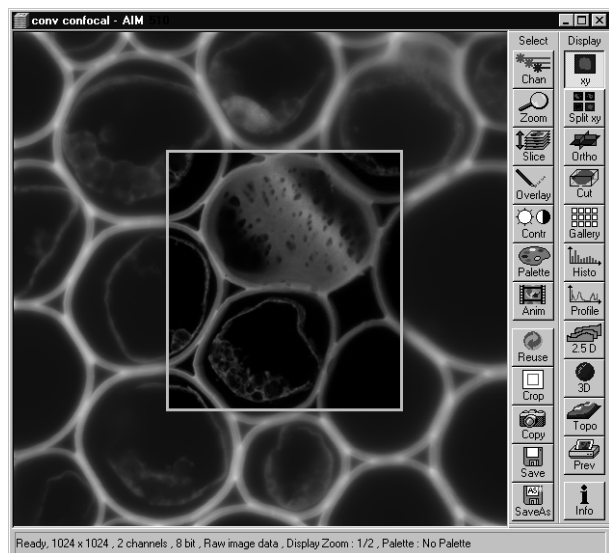

Fig. 5-302 Image Display window with confocal ROI
- The influence of the pinhole diameter on image creation is shown by the example in Fig. 5-302. The entire image was first scanned with too large a pinhole diameter. The pinhole diameter was then optimized for a defined ROI. This considerably improved the display of the specimen structures.